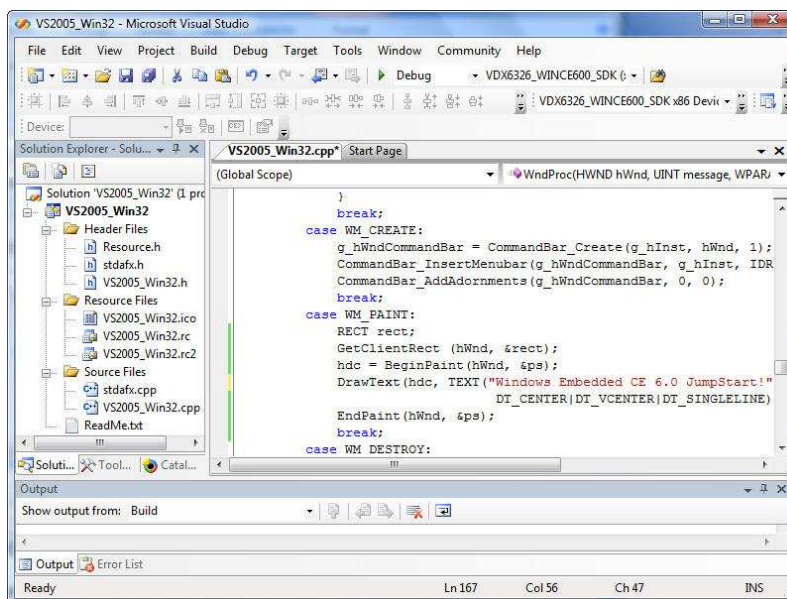

Fig. 54 - VS2005 IDE with VS2005_Win32 project active.
- Replace the codes in the “**case WM_PAINT:**” section with the following codes, as shown in Figure 54.